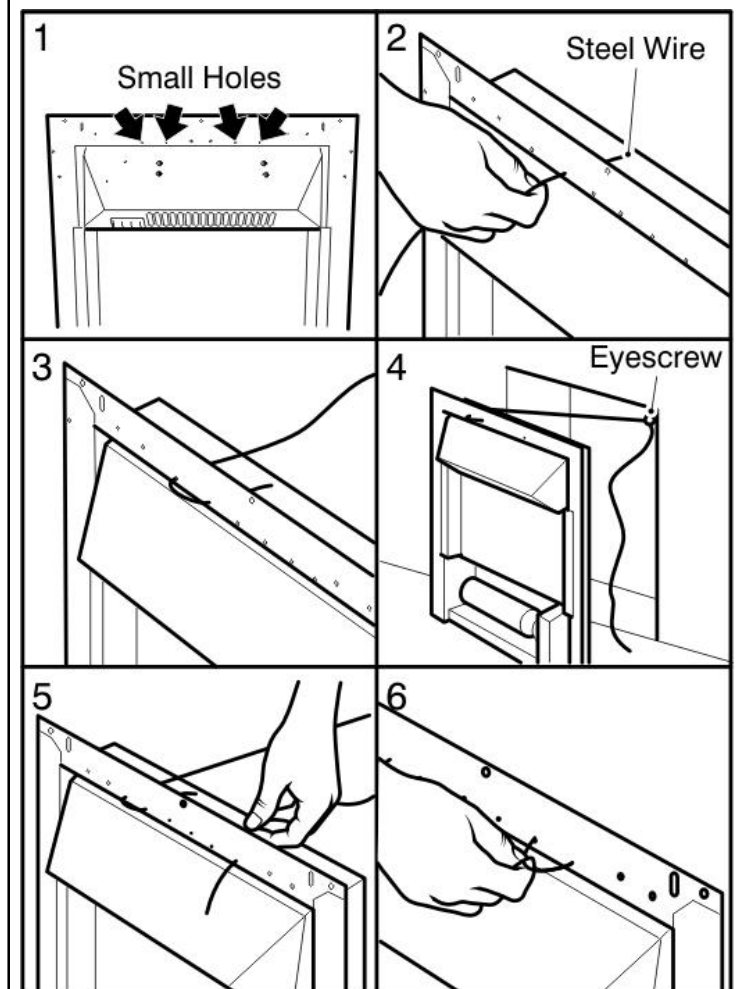

Figure 7. Steel wire fixing (Detail at top of heater may differ from that shown)
7. At the top of the heater there are four small holes, two each side of the heater (See figure 7- Item 1). From the front of the heater, thread about 50mm ( 2 inches) of the steel wire into the inside small hole on the left side of the heater (See figure 7 - item 2).
8. Thread the other end of the wire through the remaining small hole on the left hand side of the heater. Continue to push the wire through this hole until there is only a small loop of wire at the front of the heater (See figure 7 - item 3).
9. At the back of the heater there will be a long piece and a short piece of wire coming through the two holes. Hold the short piece and give the long piece a gentle tug. This will secure the steel wire. Take the long piece and thread this through the eyescrew in the back of the fireplace opening (See figure 7 - item 4).
10. From the back of the heater thread the long piece of steel wire through the outer small hole on the right hand side of the heater (See figure 7 - item 5).
11. Locate the heater in the fireplace opening, then from the front of the heater, gently pull the steel wire on the right hand side to gather up the excess until the heater is secure. Thread the wire through the remaining small hole to lock the wire and heater in place (See figure 7 - item 6).